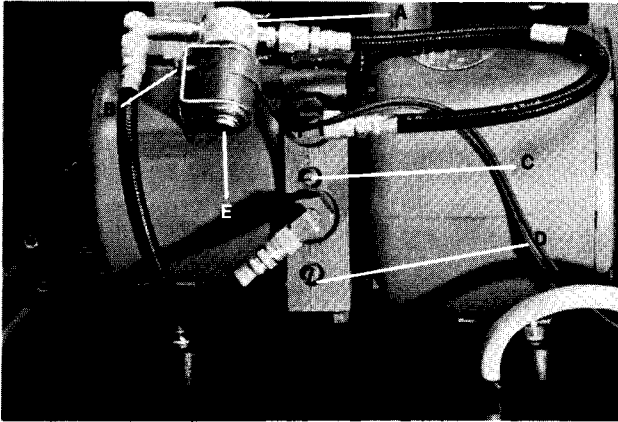

Fig. 34
The anticavitation solenoid valve, Item A, Fig. 34, will prevent cylinder extension when the cylinder solenoid is unenergized.
- 3) Remove (2) hose fittings from the valve.
- 4) Remove anticavitation valve from table by removing (2) screws, Item B, Fig. 34.
- 5) Place new anticavitation valve in position, align holes, and install (2) # 8-32 x 3/8" screws, Item B, Fig. 34.
- 6) Install the (2) hose fittings on the new valve.